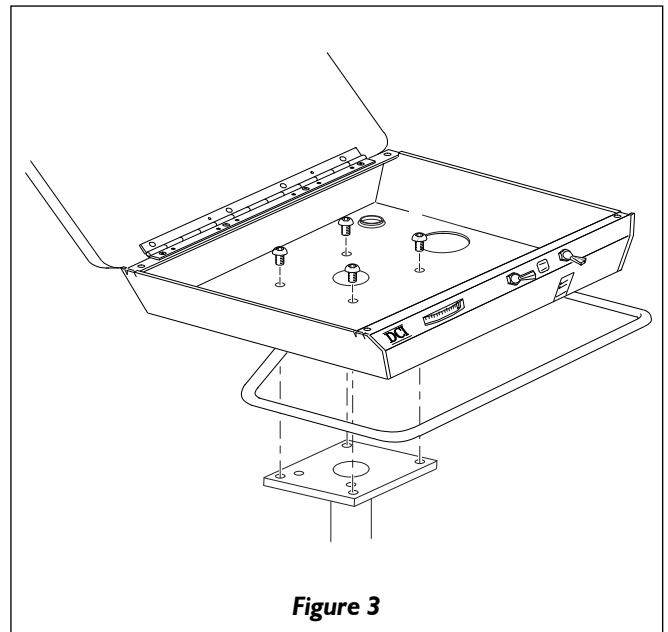

Figure 3
8. To assemble the control head to the cart (see *Figure 3*):